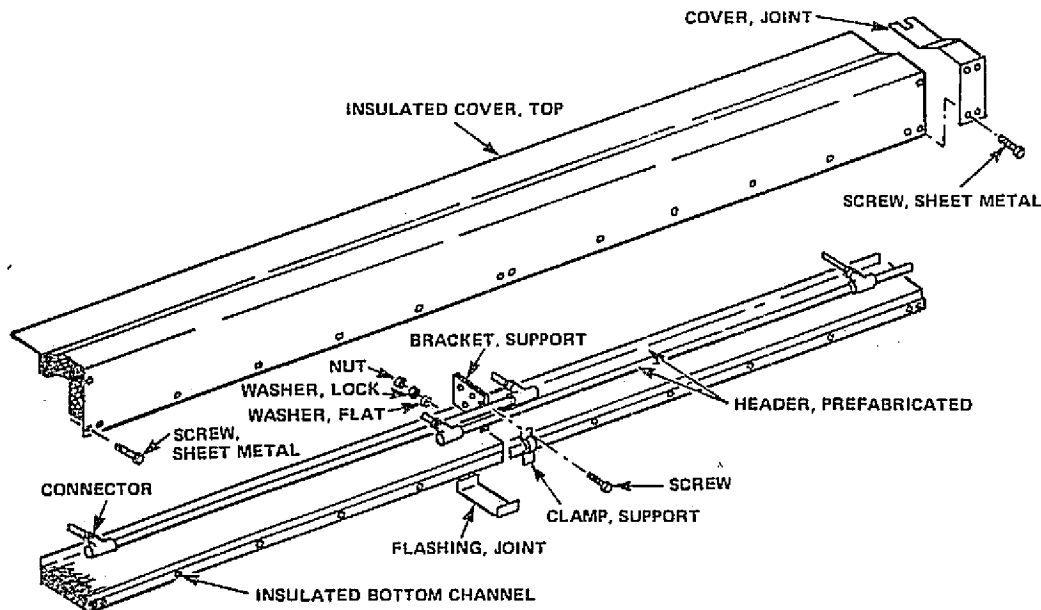

Figure 5-4. Assembly of Single Row Header Kit (8 Feet Long)
Recommended manifold configurations showing optional General Electric header accessory kits are shown in Figures 5-4 and 5-9 for single and dual arrangements, respectively. The kits provide prefabricated header piping in 4- and 8-foot lengths with correctly-spaced tee fittings and male connectors, prefab insulation, covers, pipe clamps, header support brackets, and all the necessary fasteners. Dimensional specifications for 8-foot on-site assemblies are shown in Figure 4-3.
For single row header assemblies (Figure 5-4):
5. Apply a silicone-based sealant around the gap before installing the joint covers. Install joint covers over the gaps between adjacent header covers with sheet metal screws as shown in Figure 5-4 and complete by crimping lips over the adjacent collector frames.